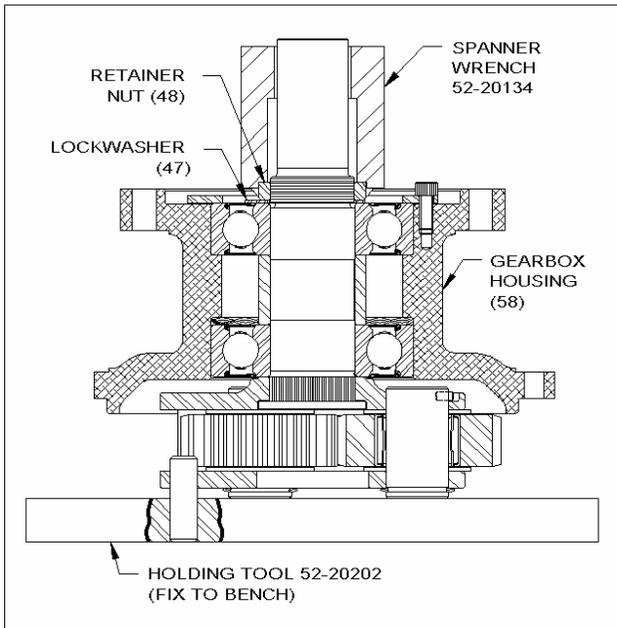

Figure 25. Tightening Retainer Nut
Place gearbox assembly on TDI Tool P/N 2-20202 per *Figure 25*. Install lockwasher (47) and then retainer nut (48). Torque to 600-800 in-lb. Tang lockwasher into retainer nut slot.